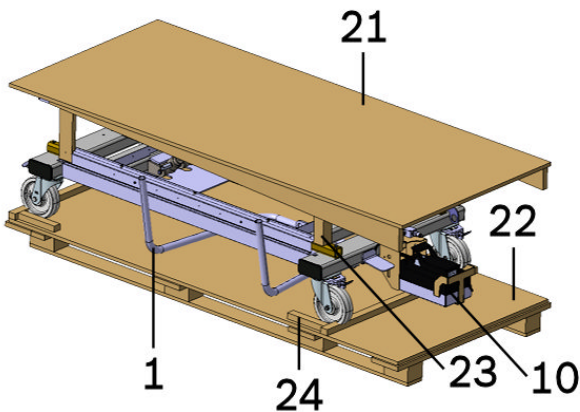

Figure 8: Scissors Lift Table on the Pallet
1. Remove the wooden strips (24) from in front of the castor wheels (6) (see Figure 8).
2. Push up the brake pedal (12) to release the brakes.
3. Hold the handle (1). Slowly roll the scissors lift table down the ramp (21) with the help of an assistant.
2. Remove the wooden pegs (23) from the scissors lift table (see Figure 8).